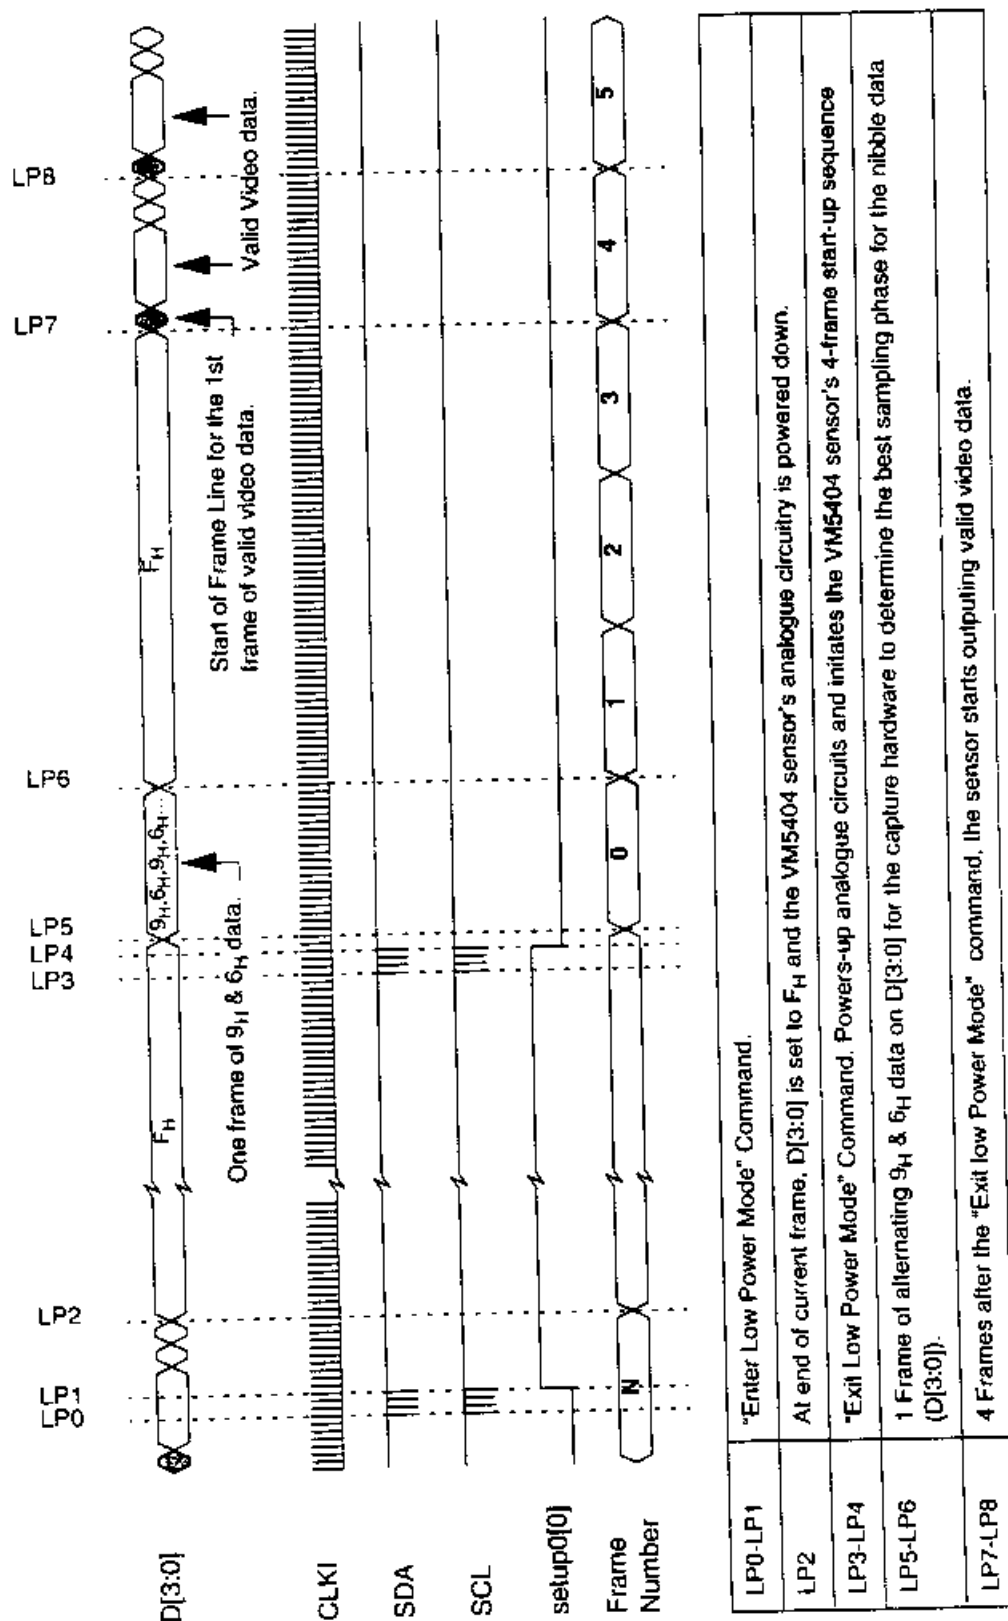

Figure 8 : Entering and Exiting Low Power Mode.
4.4.1 Power-Up/Down (Figure 8)
4.4.2 Low-Power Mode (Figure 8)